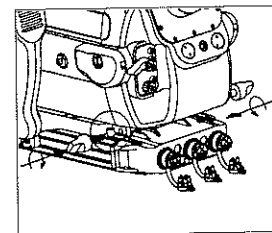

Figure 16
4. Secure the battery module to the VX-2000PRO with the fixing bolts on both sides. (Figure 16)